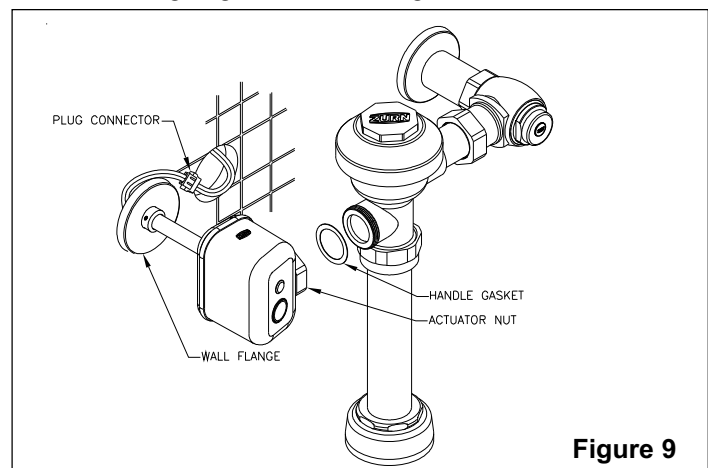

Figure 9
STEP 9 - Actuator Installation (Figure 9)
STEP 10 - Flush Out Supply Line (Figure 9)